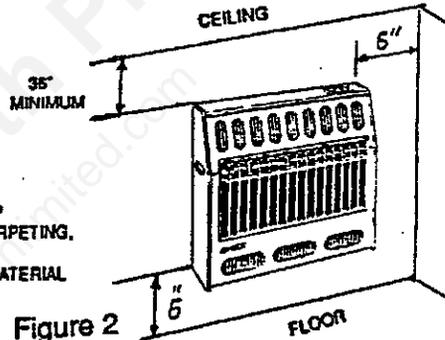

Figure 2
Select a location for the heater that will provide exposure of the radiant surface to the room, but will not be subjected to accidental contact. Adequate clearance must be available around the air opening. See figures 2, 3 and 4 for clearances that must be maintained to the side walls, floor and horizontal surface above the heater.
4. Clearance from combustible construction. See Figure 2.
Maintain the minimum clearances shown in Figure 2 (page 7). If you can, provide greater clearances from floor, ceiling, and joining wall.